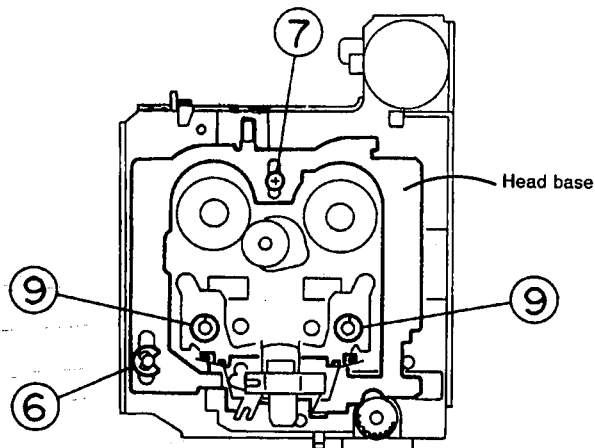

Fig. 4-17
■ Head base (See Figs. 4-17 and 4-18)
- 3) Remove the E washer ⑥ from the left shaft of the pinch roller.
- 4) Remove screw ⑦ for the head base.
- 5) Turn the head base upside down, then remove the C washer ⑧ securing the collar which secures the FWD/REV plate (the collar can also be removed.) (At this time, if the main belt is removed, operation will be made easier.)
■ Flywheel ass'y (See Figs. 4-17 and 4-18)
- 3) Remove two C washers ⑨ attached to the capstan shaft (remove both the right and left washers).